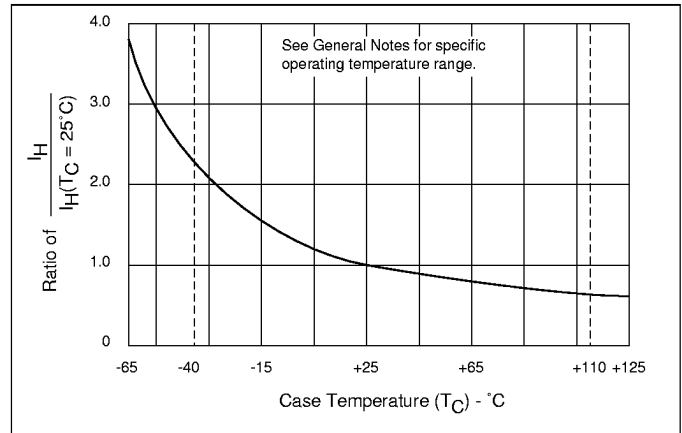

Figure 5.13 Normalized DC Holding Current vs Case Temperature
- (5) See Figure 5.13 for  $I_H$  vs  $T_C$ .